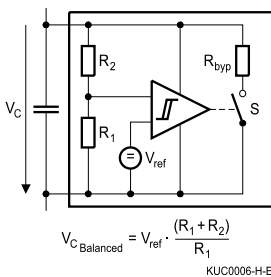

Figure 1
- If the cell voltage  $U_c$  (calculated by the formula below) is higher than the average voltage level of the connected UltraCaps, the cell voltage balancing unit closes the switch  $S$  (Fig. 1). Cell discharging occurs with approx. 800 mA via the integrated bypass resistor  $R_{byp}$  as long as the cell voltage level becomes the average level and the switch  $S$  opens again – balanced UltraCaps.